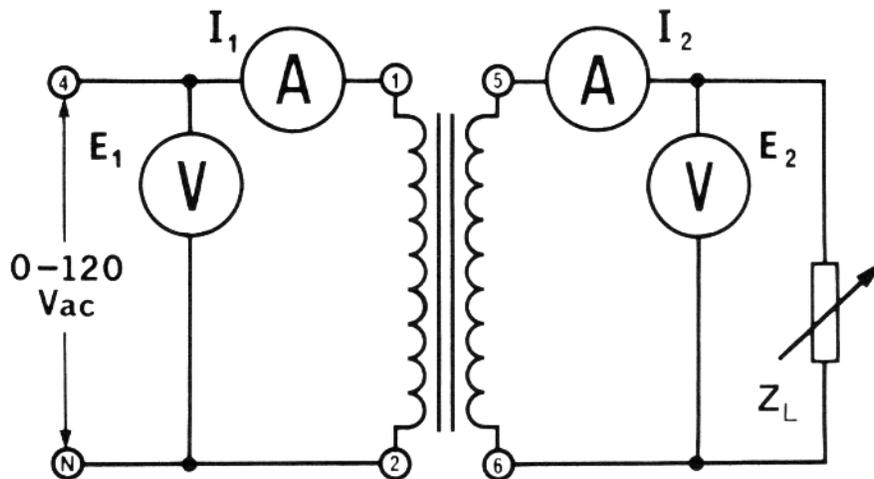

Figure 04-6
- 4) To study the transformer regulation, construct the circuit shown in Figure 04-6.